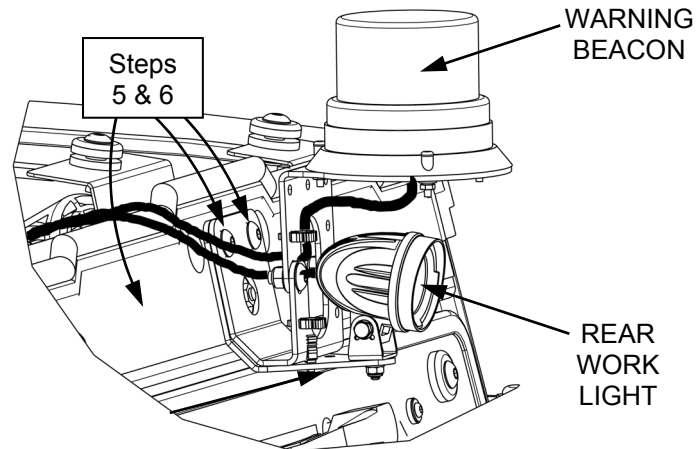

Figure 3
4. Remove the (3) rear roof bolts. Insert a block to raise the back of the roof, 2 to 3".
5. If rear work light is installed, remove bolts that secure light bracket to cab. If there is no rear work light, locate and remove the (2) 3/8" hole plugs located above the upper rear window (**Figure 3**).
6. If rear work light is to be installed or re-installed, place rear work light with beacon mount bracket (1) against the rear cross member panel first and then attach warning beacon and bracket to rear of cab. Secure using 5/16" x 3/4" long button head bolts (12) and 5/16" flange nuts (17) (**Figure 3**).